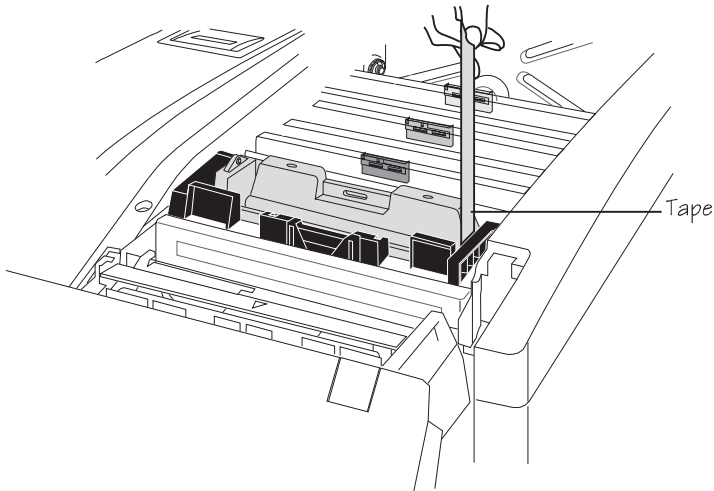

Fig. 2.9 Remove Sealing Tape (rear view)
5. Grasp the tab on the top of the developer cartridge. Pull the tab and attached clear tape straight up and out of the cartridge, making sure the tape comes completely out (fig. 2.9). Then, discard the tab and tape.